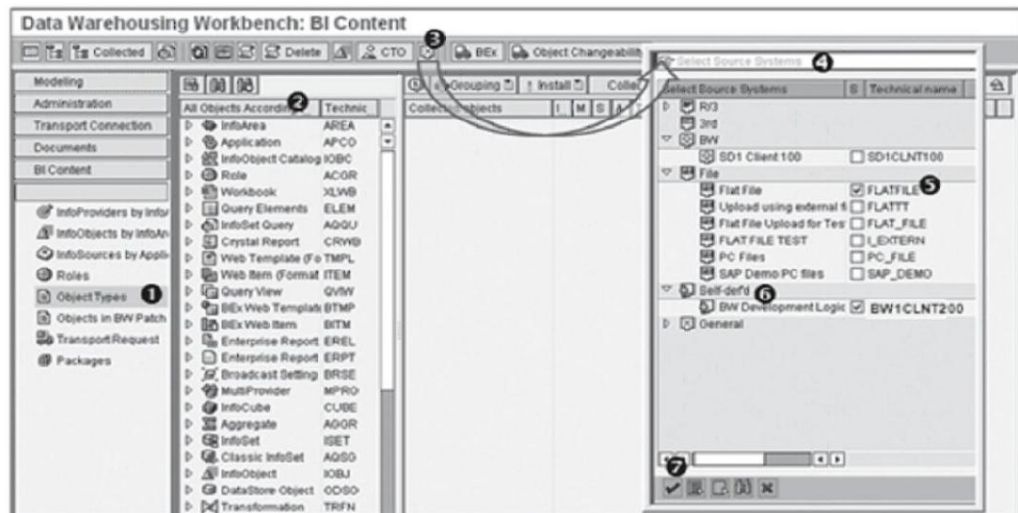

Figure 2.26 Selecting Object Type and Source System in BI Content
For demonstration purposes, we've activated a single InfoObject from SAP Business Content, OAD_AUTHID (Author ID). Click on Object Type under BI Content, as shown in ❶ of Figure 2.26. The panel on the right side now shows different available object types (❷).
To do this, click the Source System icon , as shown in ❶ of Figure 2.26. This action results in a pop-up window where you can select from the source systems (❹), which are classified into different categories (R3, SAP NetWeaver BW, File, 3rd party, etc.). There are also different types of file source systems connected as shown in ❺; we explain the process of creating file source systems in Chapter 7.